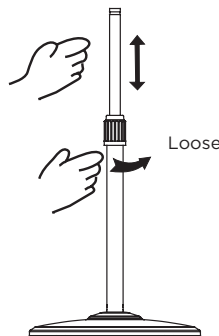

Fig.3
- 3 From the extension pole loosen the height adjustment ring and adjust the internal pole to the desired height. (Note:If you can't find the internal pole, it slides inside the extension pole. You can pull it out from the extension pole.) (Fig.3)